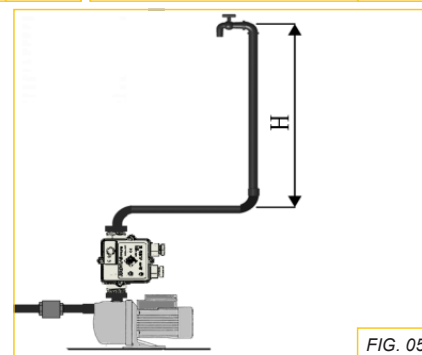

FIG. 05
Fluomac® can be installed either in a vertical or a horizontal position, anywhere between the pump outlet and the first outlet (tap). Care must be taken to ensure that the direction of the arrow on the cover is in the same direction of the flow of the fluid within the pipes (fig. 05). All hydraulic connections must be properly tightened. An adequate pressure reducing unit must be fitted on the delivery port of any pump exceeding 10 bar working pressure.
- If the tap situated at the highest point is more than 15 metres above the Fluomac® (fig. 05 – Hmax: 30 mt)